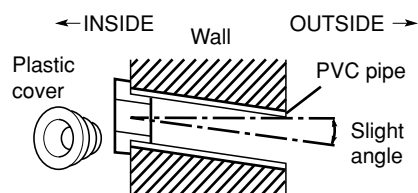

Fig. 3-65
- (6) Place the plastic cover over the end of the pipe (for indoor side only) and insert in the wall. (Fig. 3-65)